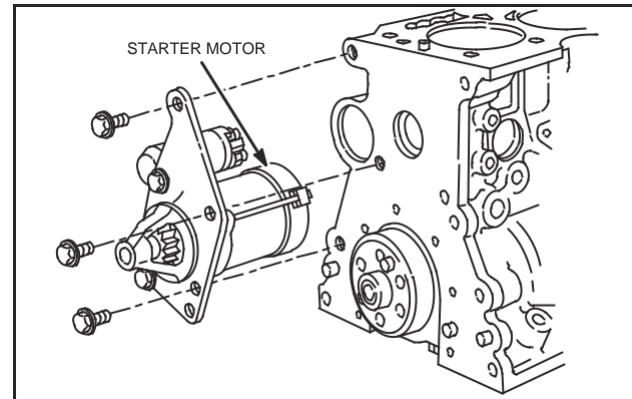

Fig. 1 – Removing Starter And Bracket
4. Remove starter motor, Fig. 1.